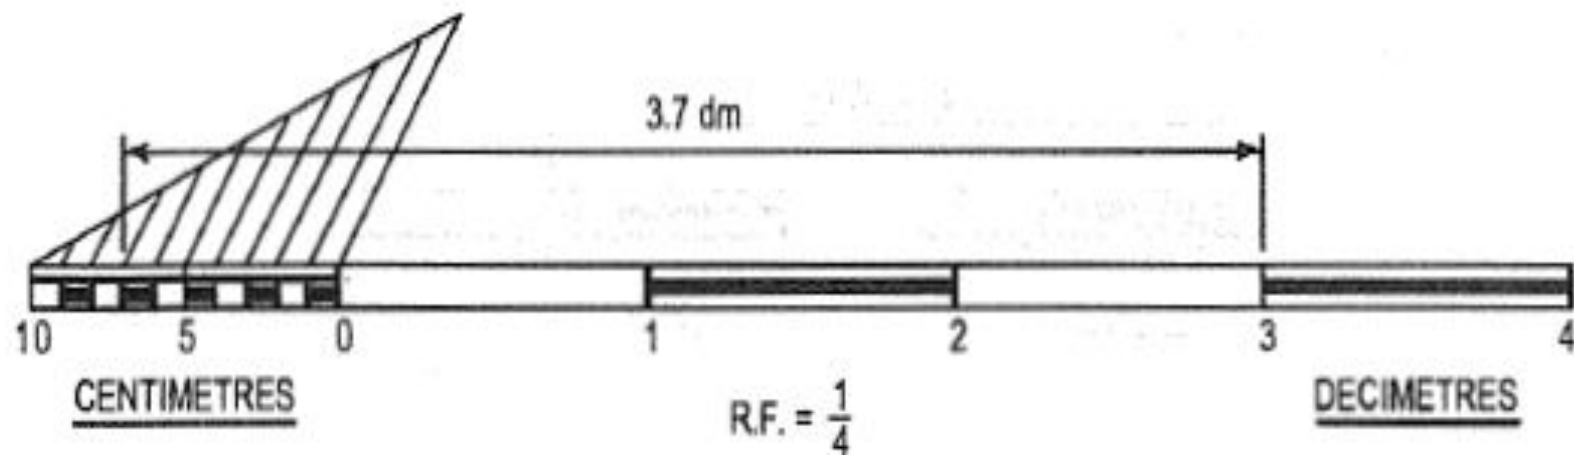

FIG. 4-1
**Problem 4-1.** (fig. 4-1): Construct a scale of 1 : 4 to show centimetres and long enough to measure upto 5 decimetres.